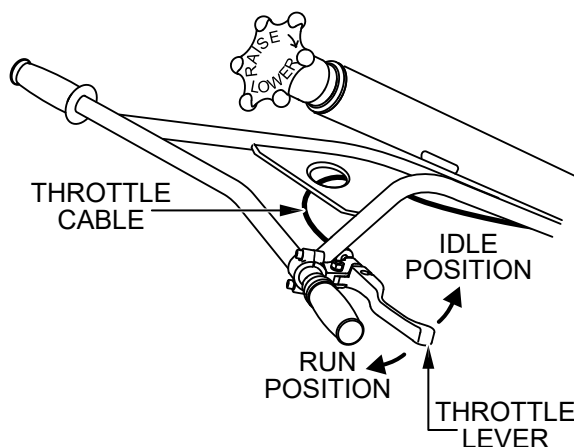

Figure 7. Throttle Lever (Standard Handle)
1. Set the throttle lever to the idle position (lever away from the operator). See Figure 7.